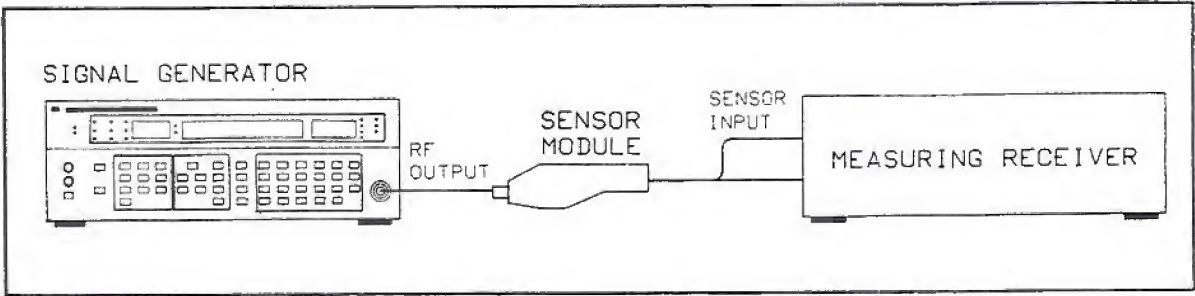

Figure 4-8. Output Level Accuracy and Flatness Test Setup
2. Connect the sensor module to the Signal Generator as shown in Figure 4-8.